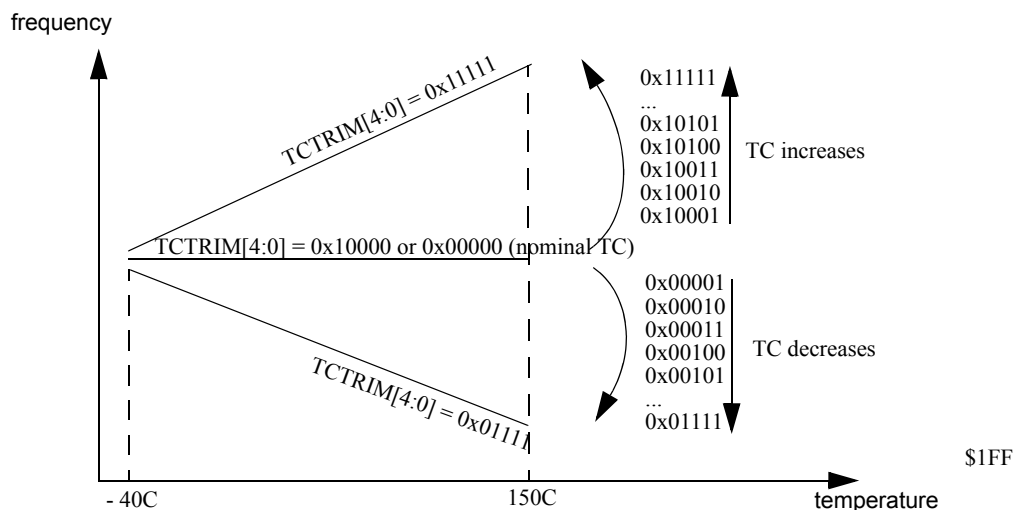

Figure 88. Influence of TCTRIM[4:0] on the Temperature Coefficient
| 15-11 TCTRIM | <p>IRC1M temperature coefficient Trim Bits Trim bits for the Temperature Coefficient (TC) of the IRC1M frequency. Figure 88 shows the influence of the bits TCTRIM4:0 on the relationship between frequency and temperature. Figure 88 shows an approximate TC variation, relative to the nominal TC of the IRC1M (i.e. for TCTRIM[4:0]=0x00000 or 0x10000).</p> |